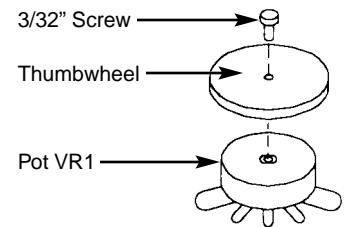

Figure 5-4
- ☐ Mount the thumbwheel to pot VR1 as shown in Figure 5-4.